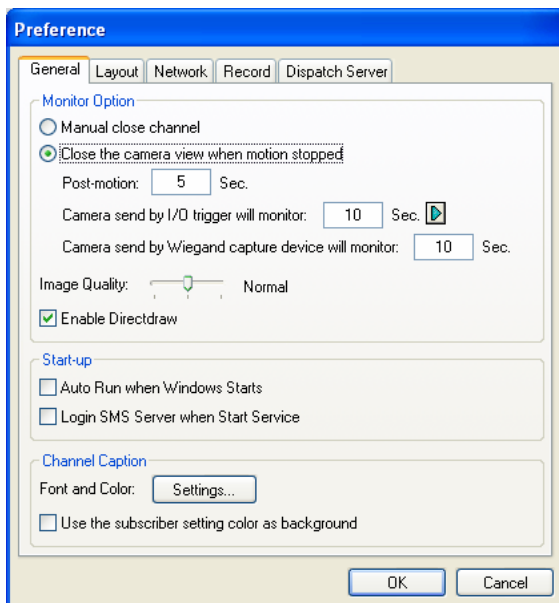

Figure 9-11 Preference- General Settings
4. On the Center V2 window, click the **Preference Setting** button (No. 10, Figure 9-1) and select **System Configure**. The Preference dialog box (Figure 9-11) appears.